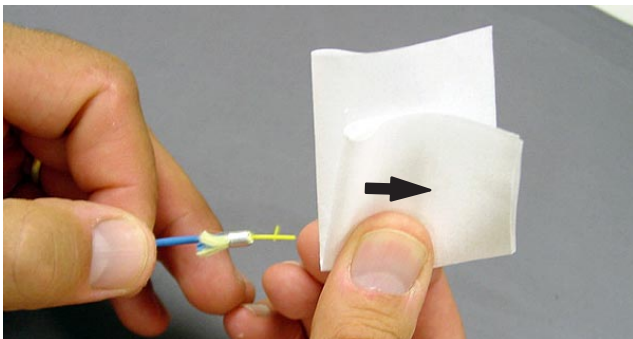

Figure 77
5. Clean the fiber on the second end (refer to Paragraph 5.3.A.14). See Figure 77.